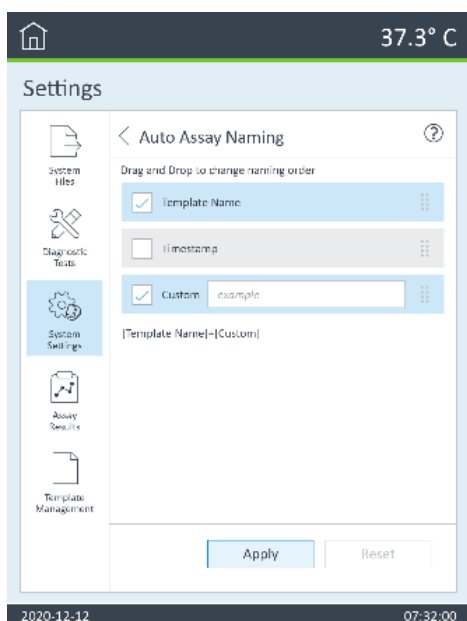

Figure 21. Auto assay naming window.
Auto assay naming allows users to specify the default name for each Assay Result File (*.xflr) that is created on the XF HS Mini Analyzer. See Figure 21.
- 1 Adjust the order of each variable by dragging and dropping the selection in the order desired. Figure 21 shows the configuration (template name) - (Timestamp).